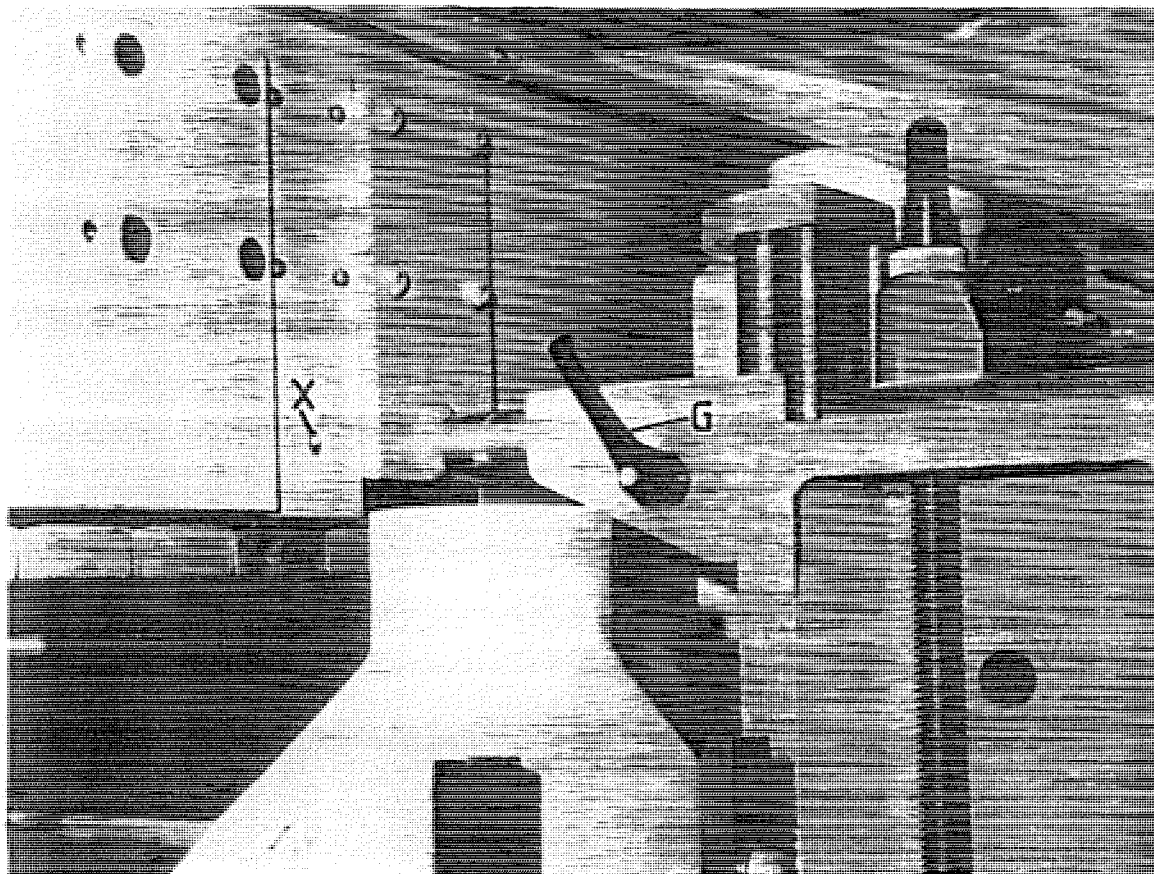

FIG. 32
- 1 Loosen locking handle "G" FIG.32. (Where applicable).
NOTE: ON MACHINES WITH AUXILIARY COLUMNS LOOSEN LOCKING HANDLE "G" FIG.32 ON COLUMNS ALSO.